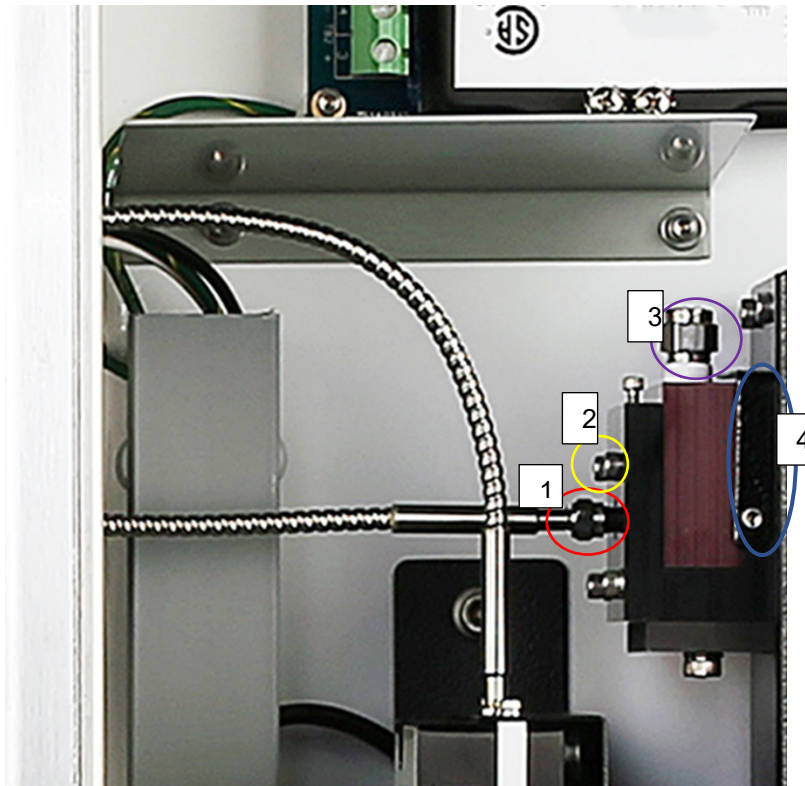

Figure 70: Replacing the Anti-Solarant Solution
Refer to Figure 70 while performing the following procedure.
1. Disconnect the source optical fibre from the fluid holder bracket on the UV Lamp Supply (Item #1 in Figure 70). Let the fibre hang freely and ensure that the end does not contact anything.
2. Loosen the light shield retaining screw on the bottom right-side of the fluid holder and remove the light shield. (#4 in Figure 70)
3. Loosen the fluid holder locking screw (s) on the left-side of the fluid holder using a 7/64" ball driver.(#2 in Figure 70)
4. Lift the fluid holder from the base by grasping the fluid holder filler plug (#3 in Figure 70).
11. Tighten the fluid holder locking screw (s) on the left-side of the fluid holder (#2 in Figure 70). Unless the analyzer is installed in a high-vibration environment, hand tight is enough for these screws.
12. Reinstall the light shield and tighten the light shield retaining screws on the bottom right-side of the fluid holder.(#4 in Figure 70).
13. Remove the protective plastic cap from the disconnected source fibre and reconnect it to the fluid holder bracket (#1 in Figure 70). Hand tight is sufficient for this connection.